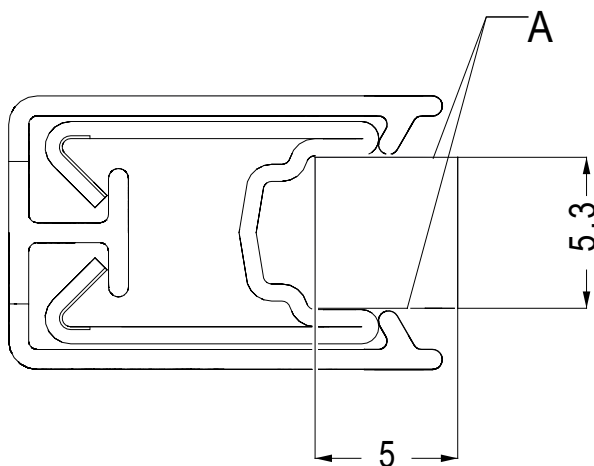

Fig. 30: Insert PE_{plus}
- If necessary, re-measure (cut surfaces 5.3 mm or see surface A in Fig. 30)